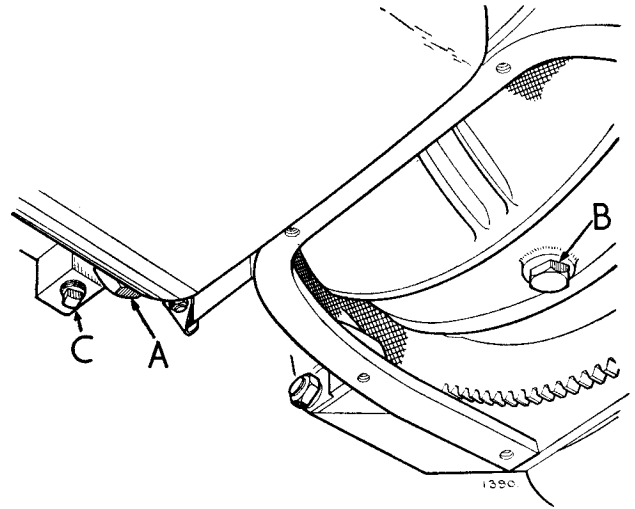

Fig. 17. Drain plugs (converter housing cover plate removed).
3. Remove the transmission oil pan drain plug. (A, Fig. 17.)
4. Remove the converter housing cover plate and rotate the converter until drain plug is in position for draining. Remove the converter drain plug (B).
5. To facilitate draining, remove the square-headed converter pressure take-off plug from the bottom of the housing attached to the left-hand side of the transmission casing (C).